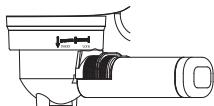

Fig.1
2. Select the one-cup or two –cup mesh, set stainless steel mesh into metal funnel, pull the press bar backward, make sure the tube on the funnel aligns with groove in the appliance, then insert the funnel into the appliance from the “Insert” position and release the press bar, and you can fix them into coffee maker firmly through turn it anticlockwise until it is at the “lock” position. (See fig. 1).